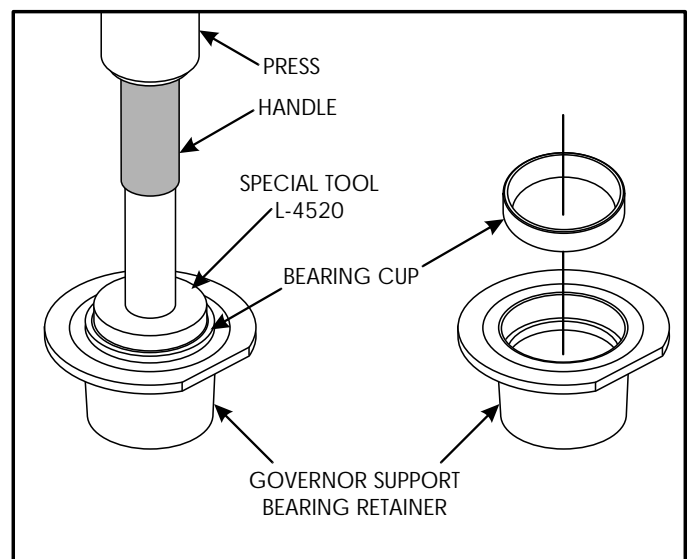

Figure 194
10. Install new bearing cup in governor support bearing retainer using special tool L-4520 and press, as shown in Figure 194.